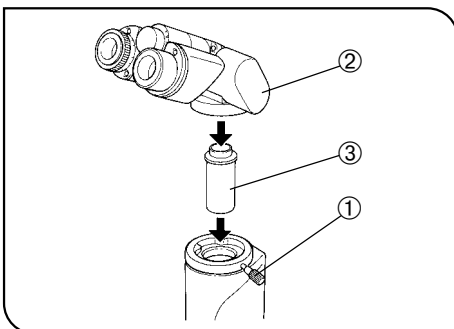

Fig. 11
1. Loosen the observation tube clamping knob ① as much as possible without it coming off. (Fig. 11)
2. Carefully insert the relay lens tube ③ of the CK40-TBI ② into the observation tube mount opening. (Fig. 11)
3. Insert the circular dovetail at the bottom of the CK40-TBI ② into the mount opening on the microscope body. Adjust the observation tube until the binocular eyepieces face directly to the front, and then tighten the clamping knob. (Fig. 11)
- ★ Use in combination the CK40-TBI ② and relay lens tube ③ from the same package.